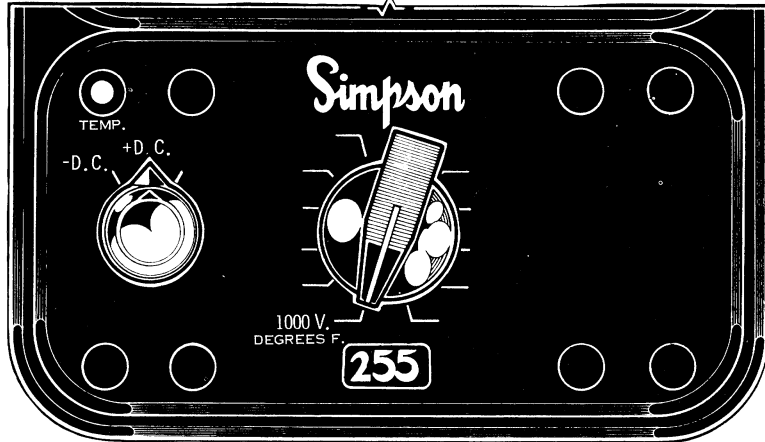

Figure 4-7. Jacks and Switch Position for Temperature Measurement
- Set range switch to the position marked DEGREES F (common with the 1000V position, (Figure 4-7).